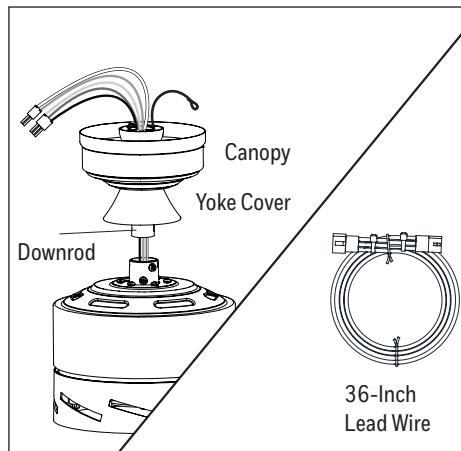

Figure 3.2
2. Insert the downrod through the canopy and yoke cover. Feed the wires and braided cable from the fan through the downrod and then through the downrod ball. Depending on the length of downrod you use, you may need to use the 36-inch lead wires to accommodate a 36 or 48-inch downrod (sold separately). When necessary, connect the 3-pin and 2-pin connector extending from the center of the downrod to one end of the 36-inch lead wires. **Note:** The downrod included with this fan will not utilize the 36-inch lead wires (Figure 3.2).